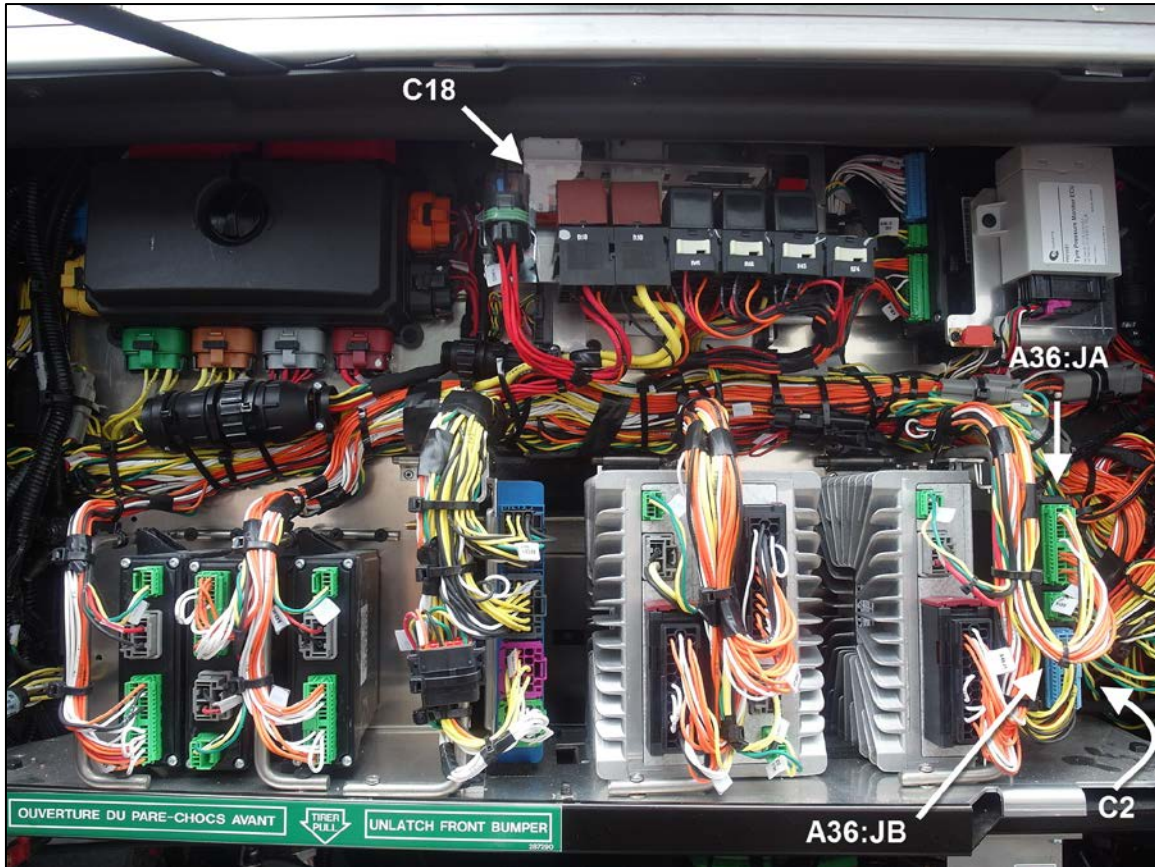

FIGURE 20: CONNECTOR LOCATION OVERVIEW
19. From R21, three (3) wires go directly to the MCM (Figure 20).